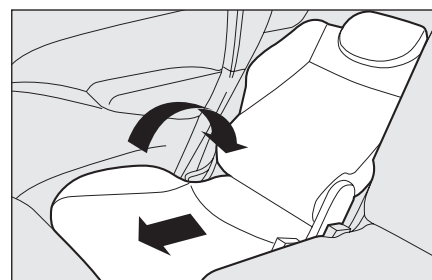

fig. 47
- ☐ recline the rear seat backrest to the required position **fig. 47**.